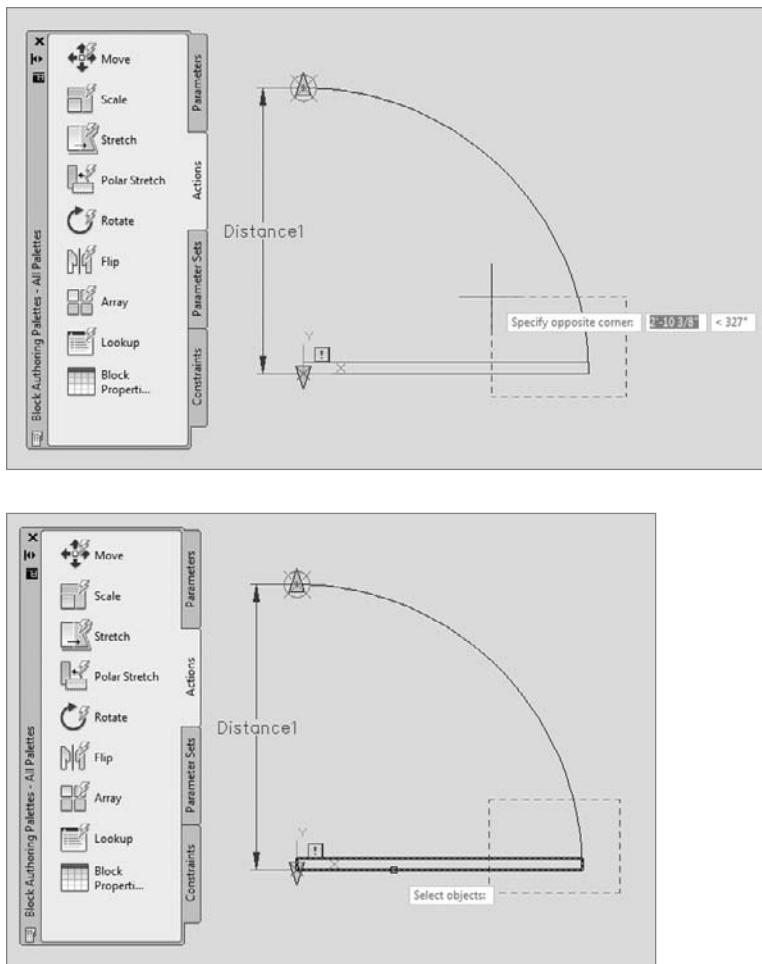

FIGURE 9.45 Defining the stretch frame (top), and selecting the door objects (bottom)
3. At the **Specify first corner of stretch frame or [CPolygon]:** prompt (Figure 9.45, top), form a crossing polygon around the right half of the door, clicking each of the opposing corners rather than clicking and dragging, as shown in Figure 9.45 bottom.